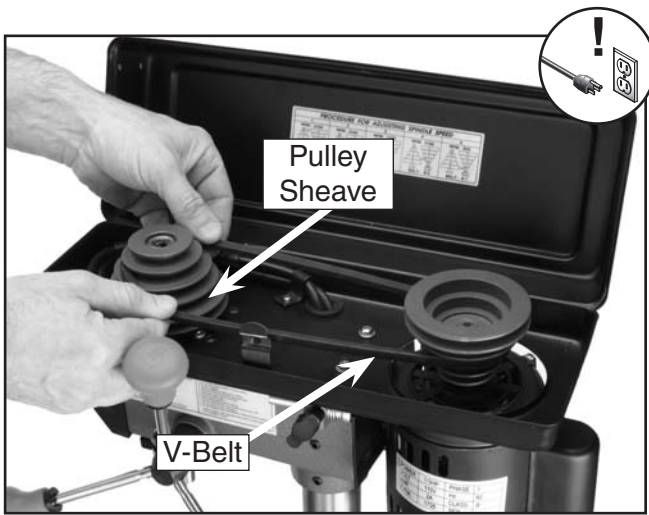

Figure 15. Adjusting belt.
- Move the V-belt onto the desired sheave on the motor and spindle pulleys (**Figure 15**).